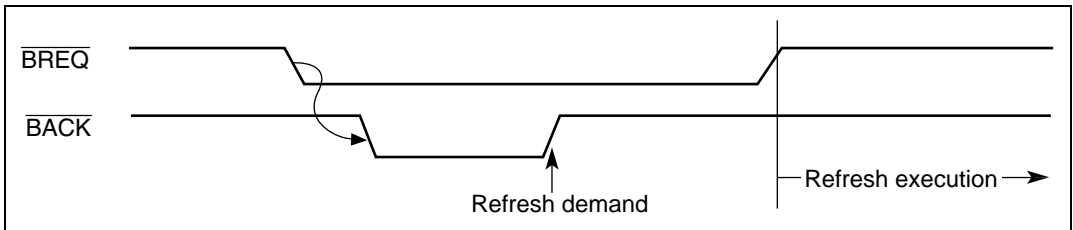

Figure 8.36 $\overline{\text{BACK}}$ Operation in Response to Refresh Demand (1)
1. If DRAM refreshing is requested in this chip when the bus is released and $\overline{\text{BACK}}$ is low, $\overline{\text{BACK}}$ goes high and the occurrence of the refresh request can be indicated externally. At this time, the external device may generate a bus cycle when $\overline{\text{BREQ}}$ is low even if $\overline{\text{BACK}}$ is high. Therefore, the bus remains released to the external device. Then, when $\overline{\text{BREQ}}$ goes high, this chip acquires bus ownership, and executes a refresh and the bus cycle of the CPU or DMAC. After the external device acquires bus ownership and $\overline{\text{BACK}}$ is low, a refresh is requested when $\overline{\text{BACK}}$ goes high even if $\overline{\text{BREQ}}$ input is low. Therefore, drive $\overline{\text{BREQ}}$ high immediately to release the bus for this chip to hold DRAM data (see figure 8.36).